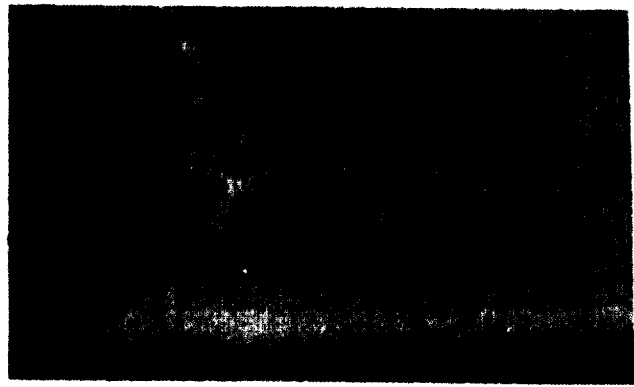

Figure 22-7. Master Cylinder (Disassembled).
(1) Dip all the component parts in clean brake fluid and place them on a paper towel (figure 22-7).